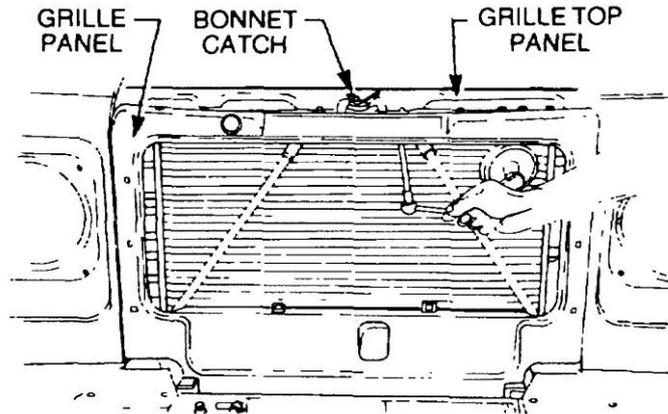

Figure 2 Removal of the Grille Panel
- g. Remove the bolts and washers securing the top of the cross-braces to the grille top panel (Figure 2). Remove the bonnet lock and the bolts, washers and nuts securing the bottom of the cross-braces to the chassis and remove the cross-braces.